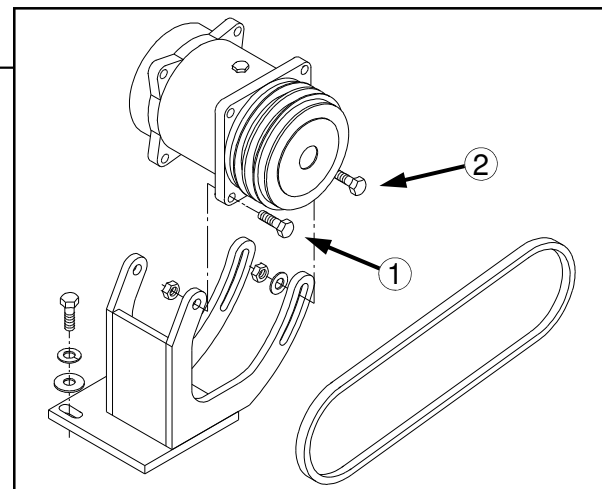

FIG 7.17-4
A/C COMPRESSOR BELT– To tighten air conditioner compressor belt, loosen the two pivot bolts (fig. 7.17-4, item 1) and the two slide bolts (fig. 7.17-4, item 2). Using a suitable prying tool, adjust tension on the belt to the desired tautness. While maintaining tension, re-tighten all four bolts. Inspect belt every 250 hours.